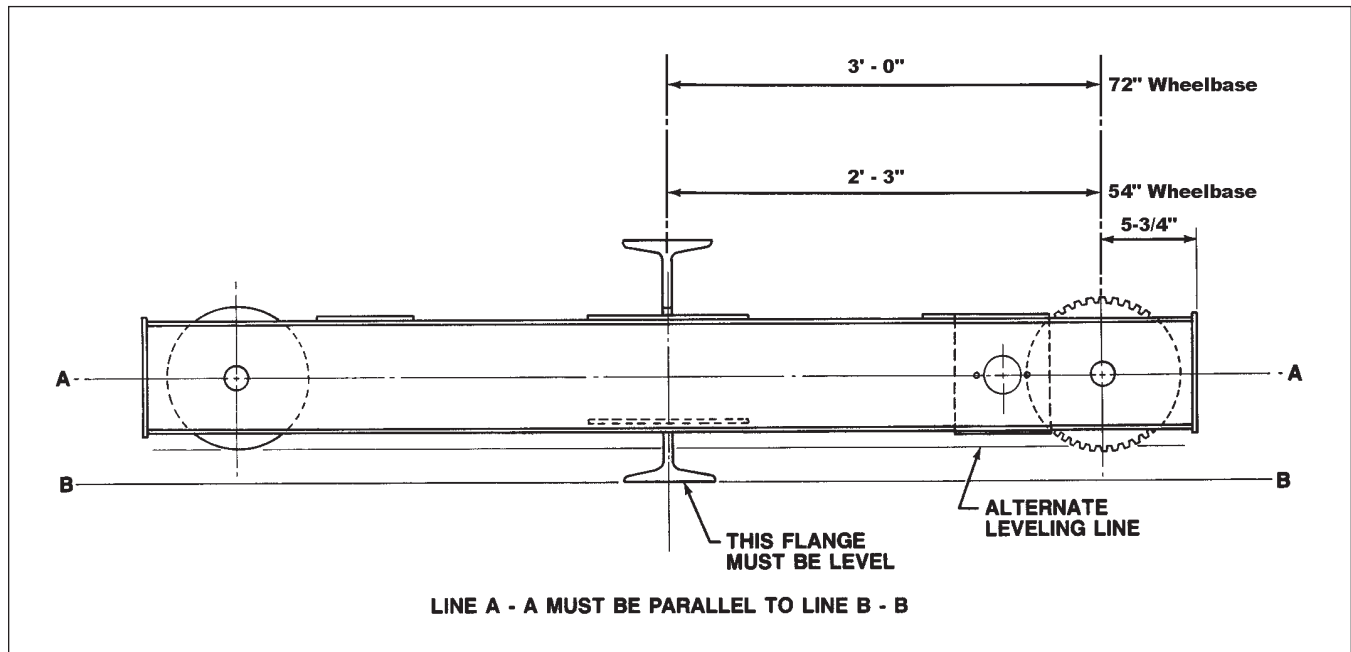
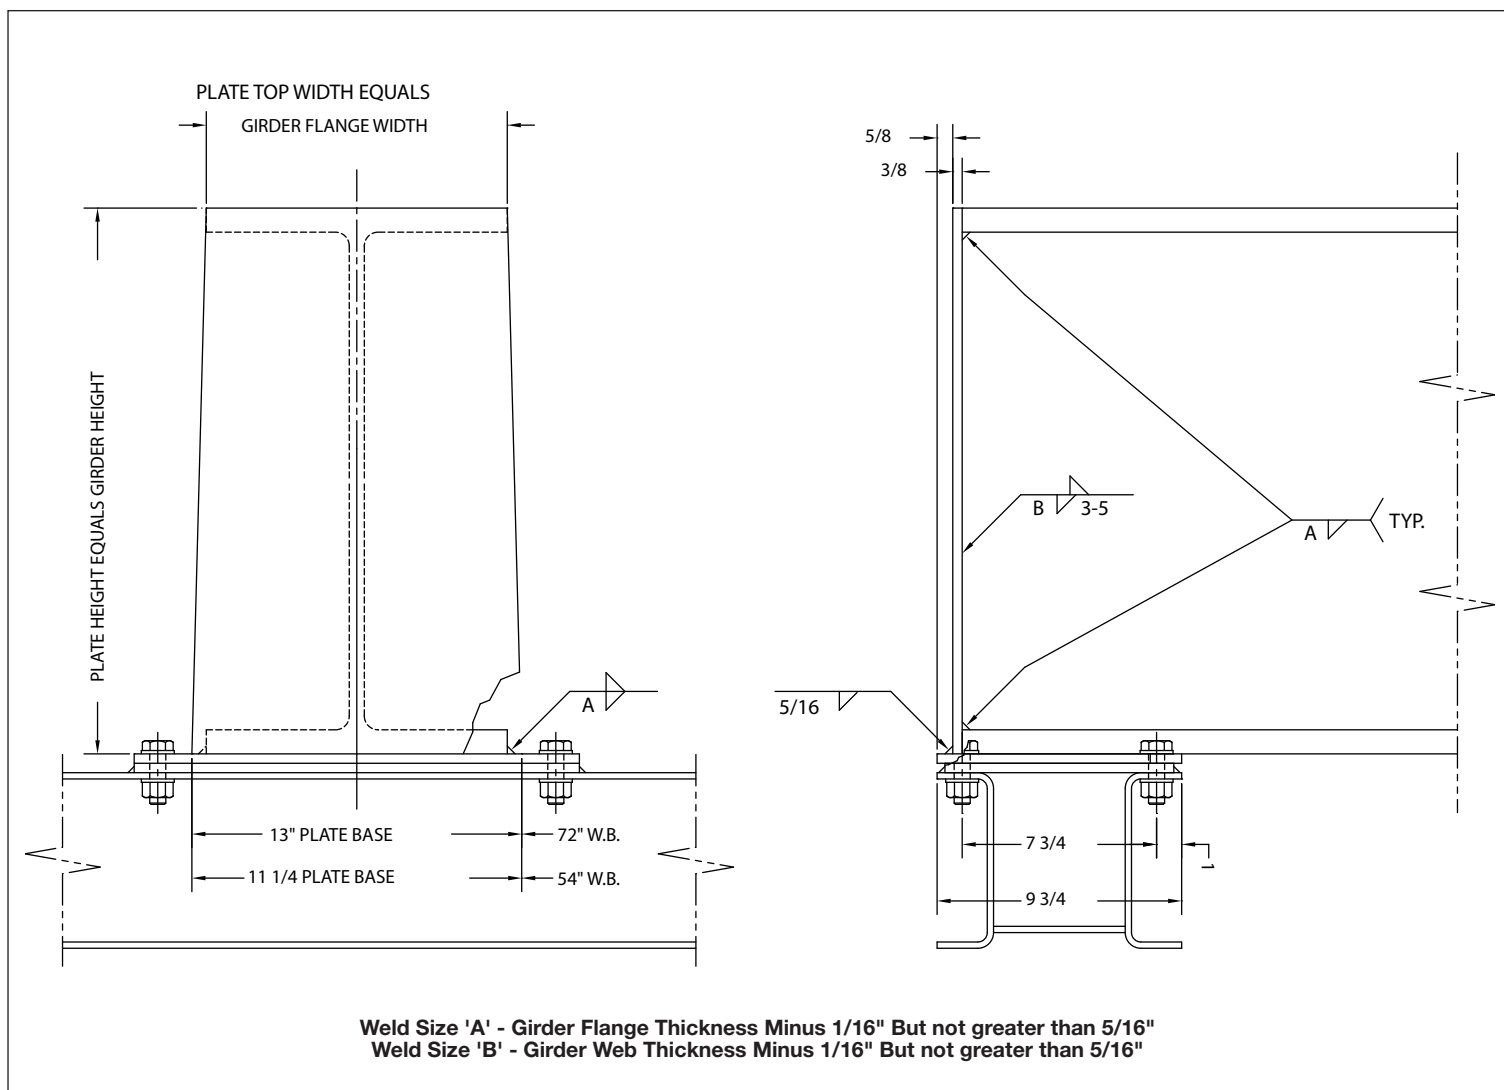

Figure 5. Method of Setting End Truck to Girder.
Figure 11a. Bridge Beam End Connections.
1. Turn beam over on supports with camber side up. When setting up beam on supports, make certain that the bottom flange is level as shown in Figure 5. The larger wheel flange goes inside the span.
3. Set up, square, block and securely clamp trucks into position as shown in Figure 11. Make certain trucks are level with each other and are level with bottom flange of bridge beam as shown in Figure 5 (it is possible that top flange of beam may not be level even though bottom flange is). When leveling trucks, use either the centerline of the wheel axles or the diameter of the wheels. **DO NOT LEVEL FROM TRUCK STRUCTURE.** Correct operation of hoist-trolley unit requires that the bottom flange be level.
1. Turn Beam over on supports with camber side up. When setting up beam on supports, make certain that the bottom flange is level as shown in Figure 5. The larger wheel flange goes inside the span.
4. Set up, square, block and securely clamp trucks into position as shown in Figure 11a. Make certain trucks are level with each other and are level with bottom flange of bridge beam as shown in Figure 5 (it is possible that top flange of beam may not be level even though bottom flange is). When leveling trucks use either the centerline of the wheel axles or the diameter of the wheels.
7. When all dimensions are confirmed, bottom flange of bridge beam is parallel to wheels of truck and truck is securely clamped to bridge beam, weld the girder bottom flange to the girder mounting plate as shown in Figure 11a.
8. Cut 3/8" girder end cap plate and weld to end of girder and girder mounting plate as shown in Figure 11a.